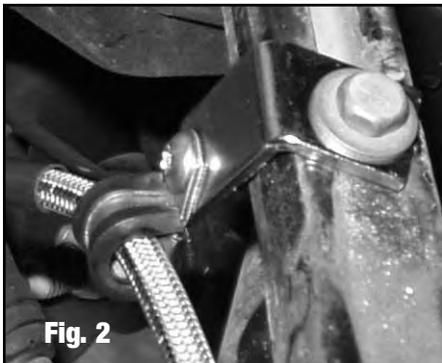

Fig. 2
3. Install short end of "L" bracket onto top of upper A-arm using factory bolt. Install cushion clamp onto hose and attach to long end of "L" bracket using supplied nut and bolt **(See Figure 2)**.